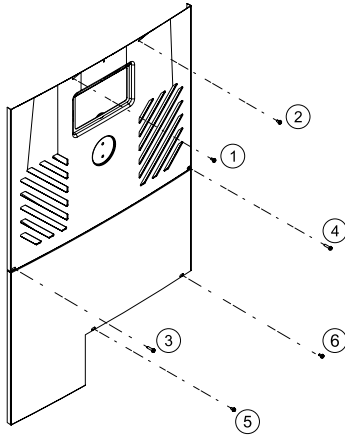

Figure 68. Sheet Metal Screws to Remove Control Panel
If service access to the heater is required, it is accomplished by removing the control cover panel and service access panel (**Figure 68**) to provide a wide access to get to (1) compressor, (2) heat exchanger, (3) thermal expansion valve (TXV), (4) reversing valve/solenoid valve (if equipped), (5) flow switch (if equipped), and (6) sensors (water, ambient and coil). To gain access, follow the steps below:
2. Remove the heater's front control cover panel by unscrewing the six (6) screws using a 1/4" hex head screwdriver. See **Figure 68**.